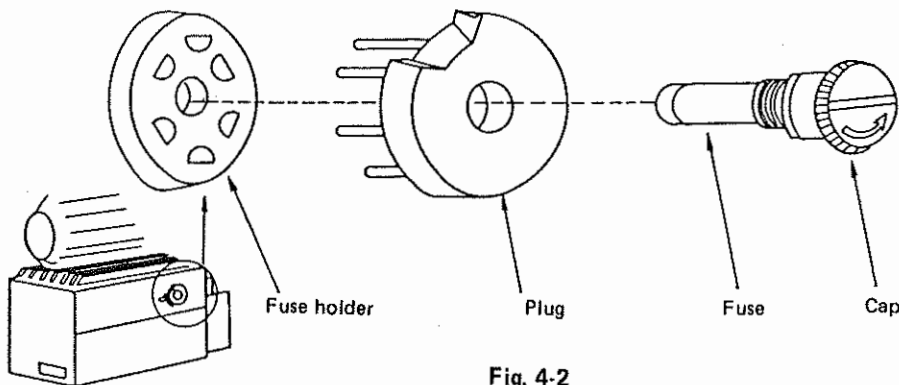

Fig. 4-2
- ① Turn the power OFF.
- ② Turn the fuse holder cap in Fig. 4-2 in the direction shown by the arrow, using a coin, then remove the cap. (Do not use a screwdriver to remove the cap. Use a coin.)
- ③ Unplug the plug shown in Fig. 4-2, change the play angle until the desired voltage indication becomes visible, then plug it back in.
- ④ Tighten the cap with a coin.